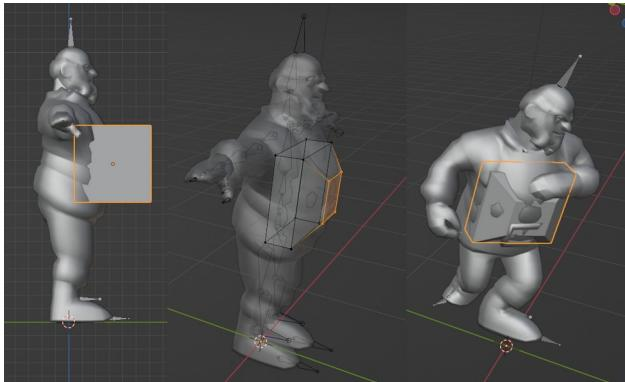

Figure 11-4 Making a Soft Body to Deform the Peasant Man's Belly
2. The peasant man will be submerged inside the cube so select the cube that will become the soft body, and scale it down so it's about the size of the belly area then move it in the Y and Z directions so one side is just inside the man's body as on the left of Figure 11-4, this is most easily done in orthographic view. Just to preempt any confusing behavior later, select **Object ▾ Apply ▾ All Transforms**.
3. In Edit mode add an edge loop then scale and move the vertices to more closely match the shape of the belly as in the middle of Figure 11-4.
6. When you change the armature Skeleton back to **Pose Position** from Rest Position you should see the soft body move with the armature as shown on the right of Figure 11-4. Of course you haven't actually made it into a soft body yet, so select the soft